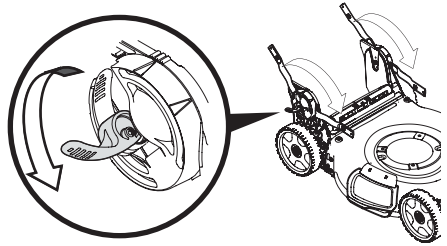

Figure 11
2. Unlock the two handle release levers. See inset, Figure 11.